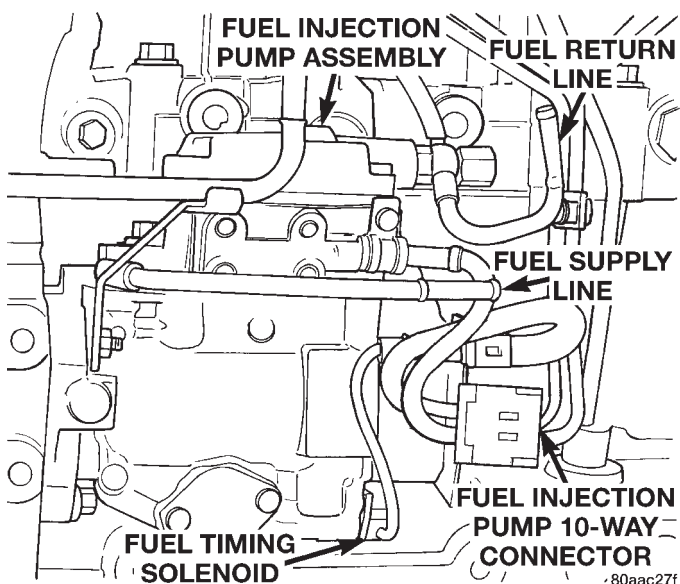

Fig. 16 Fuel Shutdown Solenoid Location
(8) Inspect the starter motor and starter solenoid connections for tightness and corrosion.
(9) Verify that the Fuel Injection Pump electrical connector is firmly connected. Inspect the connector for corrosion or damaged wires. The solenoid is mounted to the rear of the injection pump (Fig. 16).